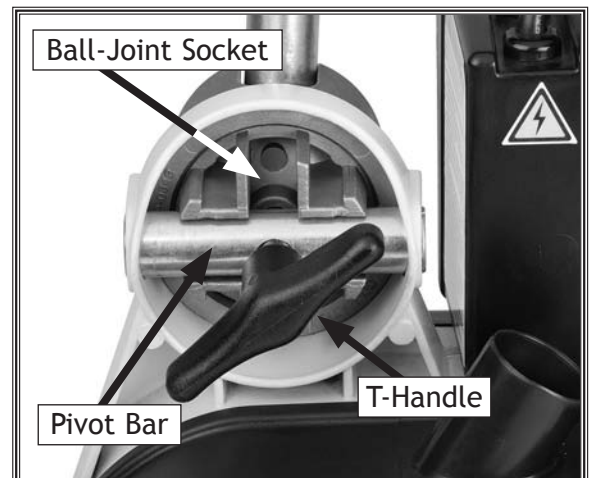

Figure 7. Assembled ball joint assembly.
5. Insert the ball-joint socket into the power feed socket as shown in **Figure 7**, so it rests against the ball-joint ball.
6. Align the ball-joint socket with the power feeder socket and insert the pivot bar as shown in **Figure 7**.
8. Thread the T-handle through the pivot bar so the end of the T-handle bolt presses against the ball-joint socket firmly as shown in **Figure 7**.